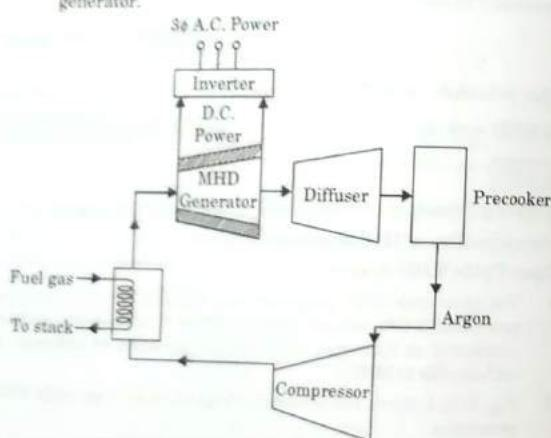

Fig. 3.11.2. Closed cycle MHD generator.
1. Fig. 3.11.2 shows the schematic diagram of closed cycle MHD generator.